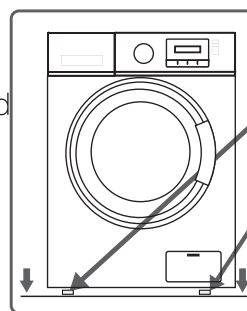

Fig 5
- 3:** First, loosen the plastic adjustment nut. (Fig 5)